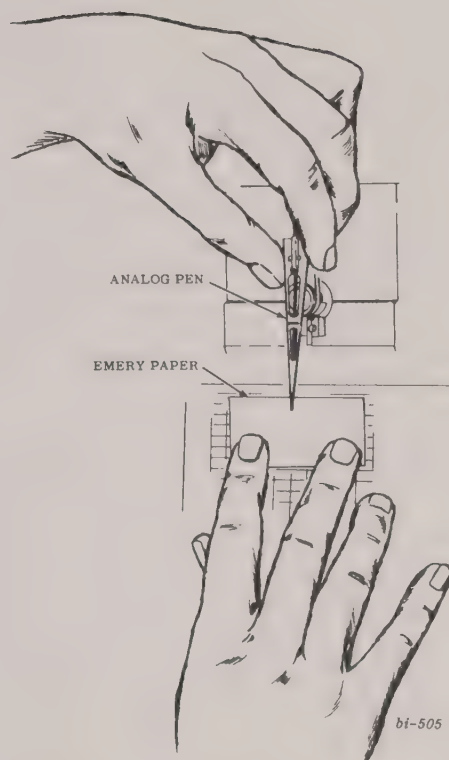

FIGURE 6-9 LAPPING PENS.
4. Move emery paper back and forth under pen tip, parallel to chart time lines, for a total distance of approximately two inches. (Fig. 6-9)